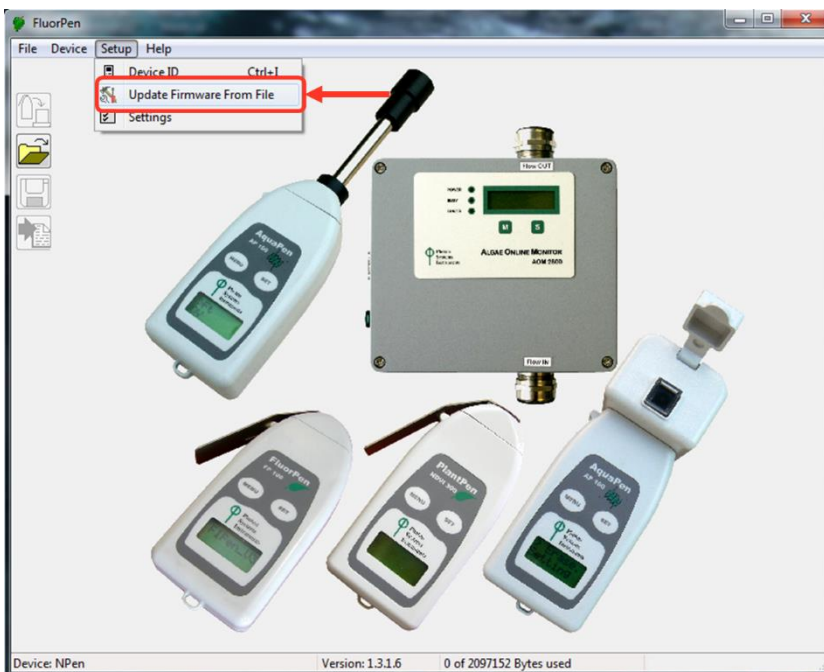

Fig. 23 Firmware Update.
1. Starting Update: Select **Setup > Update Firmware From File** (Fig. 23).